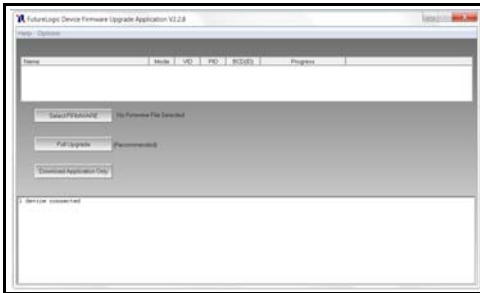

Figure 4 FutureLogic Device Firmware Upgrade Application UI Window
1. From your PC Desktop, launch the FutureLogic Device Firmware Upgrade Application (FLDFU) (Figure 4).